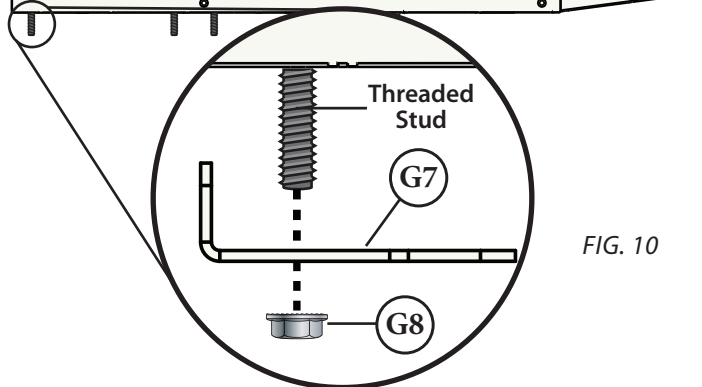

FIG. 10
- 10** Secure each of the twelve Plenum Clips (G7) onto the threaded studs using twelve Whiz-Lock Nuts (G8) as shown in [FIG. 10].